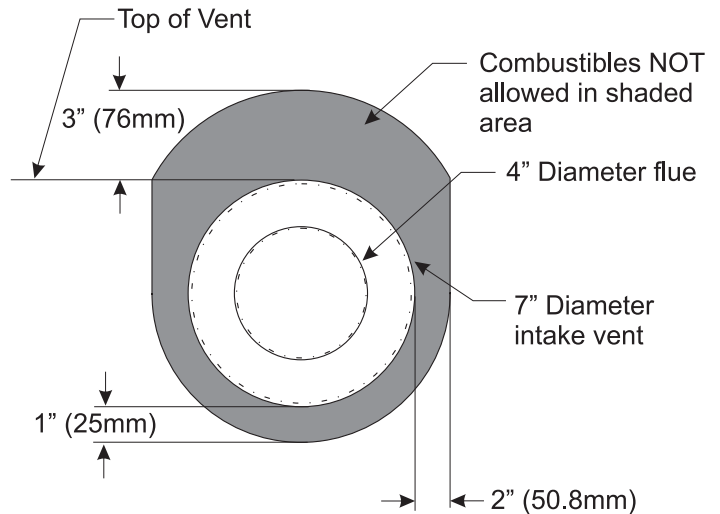

Figure 74
10. Apply sealant to the outside of the flue pipe adapter and connect to the flex flue pipe. Then insert the adapter into the fireplace flue. Secure flue adapter to the fireplace flue with a minimum of two screws provided. **See Figure 74.**